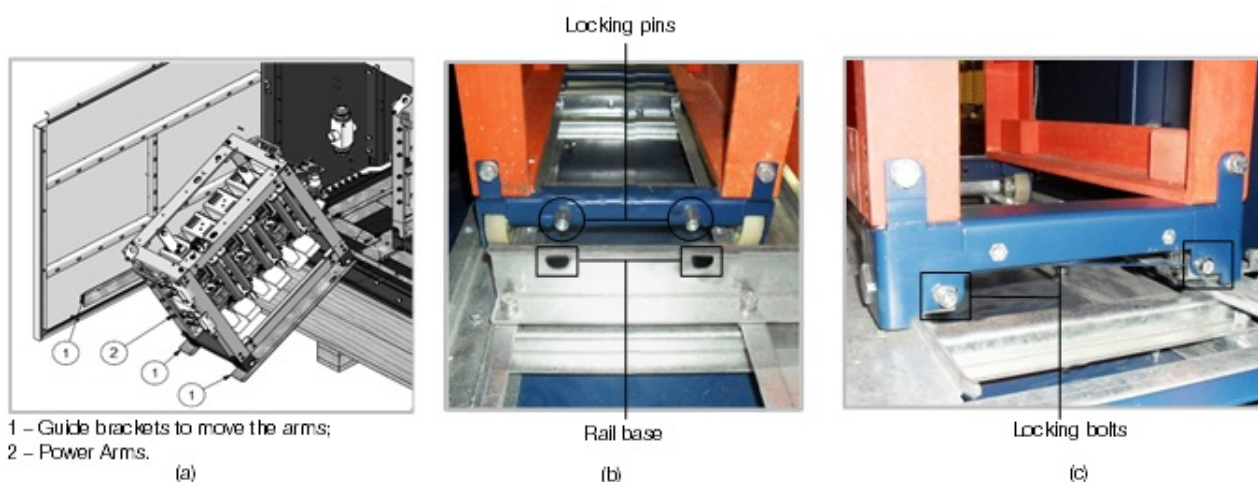

Figure 5.17 (a) to (c): Details of the arm insertion stages
1. Use the auxiliary guide brackets, shown in figure 5.17 \(a\), to move the arms. These auxiliary guide brackets are supplied with the product and are positioned at the internal part of the medium voltage compartment door when they are not used.
2. The arm must be inserted until the locking pins, located at the rear of the arm, fit into the rail base, refer to figure 5.17 \(b\).
3. 3. Install the locking bolts at the arm front bottom part, refer to figure 5.17 \(c\).